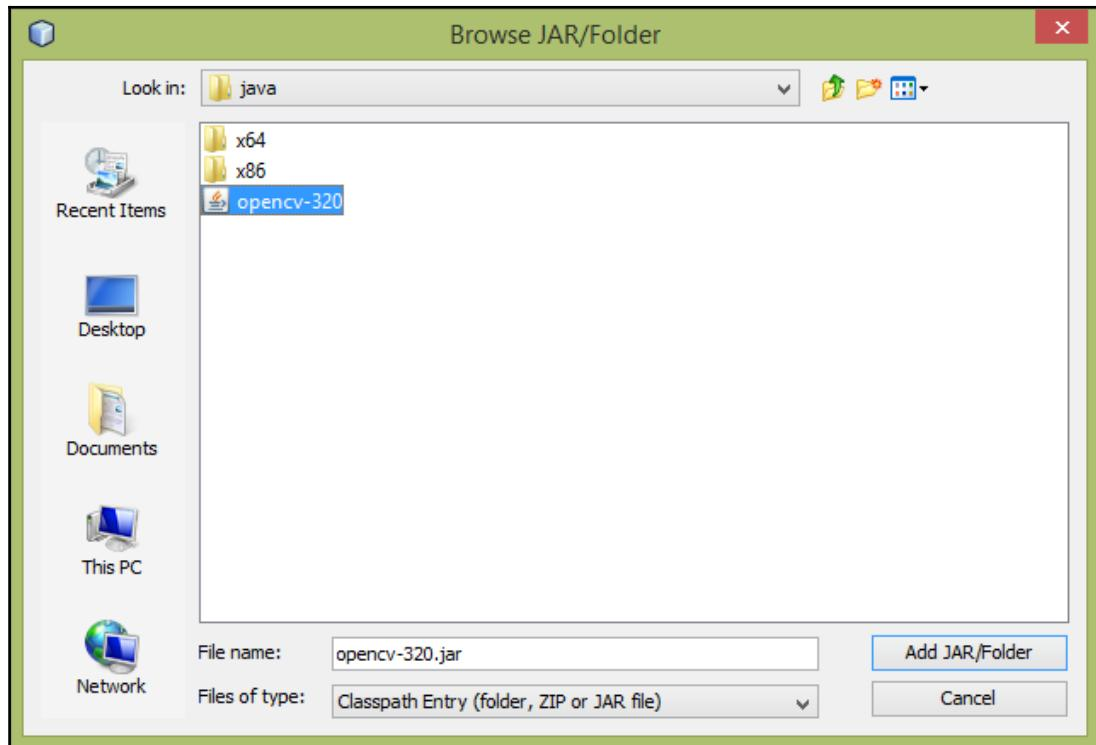

Figure 7-8: Browse JAR/Folder
4. Browse the previously extracted opencv folder and select the opencv-320.jar file located in your-drive:/opencv/build/java/. Then click the **Add Jar/Folder** button (Figure 7-8):